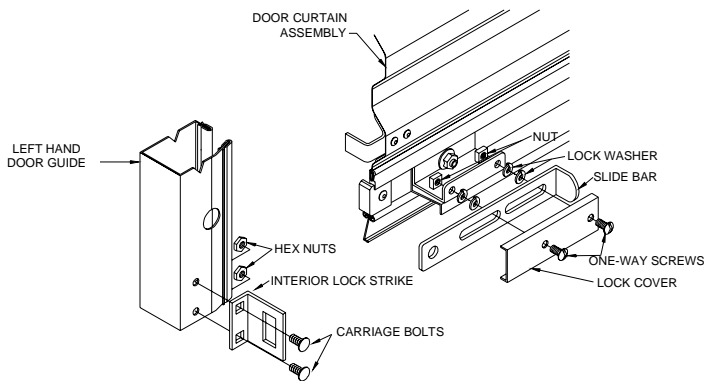

Figure 14.
10.2 Assemble components as shown in Figure 14, noting that two (2) high collar lock washers are placed over each 1/4" one-way screw to allow the lockbar to slide freely.